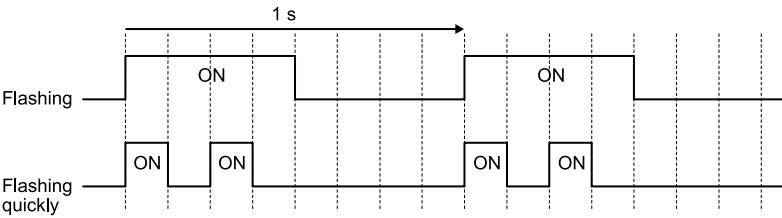

Figure 3.6 LED Flashing Statuses
*1 Refer to Figure 3.6 for the difference between "flashing" and "flashing quickly".